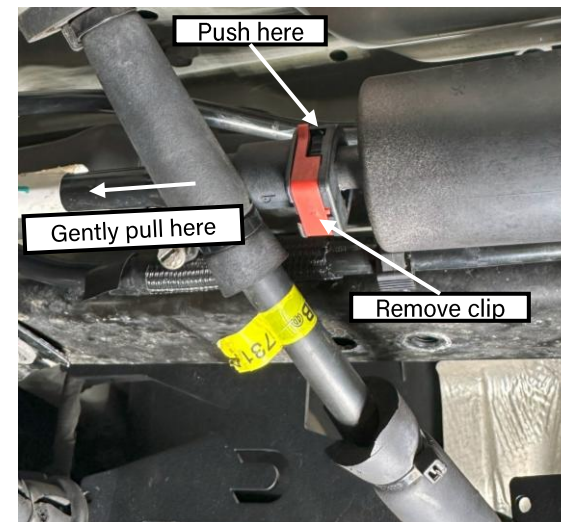

Figure 8: Vapor system hose clip
- ❑ Remove the vapor system hose clip by removing the red, plastic retaining clip and gently pushing down on the spring clip on the opposite side (Figure 8)